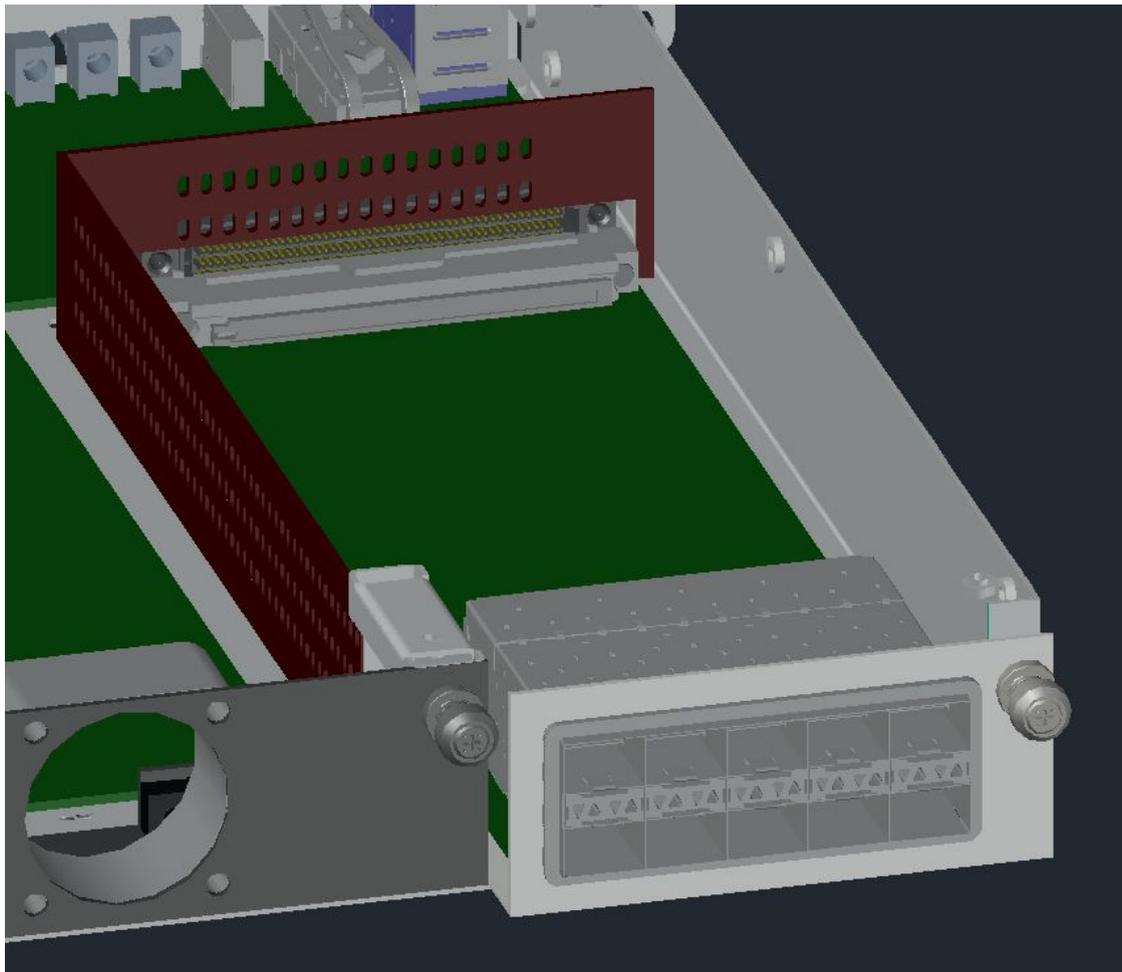

Figure 4: Expansion board with 10 SFP+ ports.
- 4) The expansion board can be used for additional ports (Figure 4 and 5):